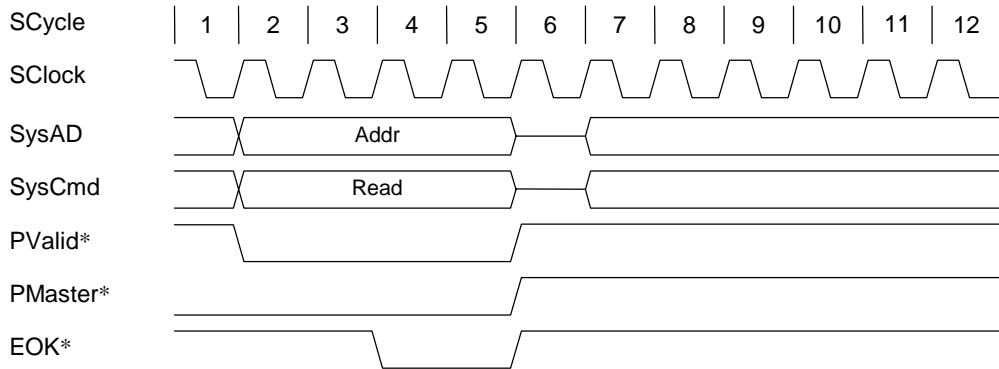

Figure 6.3.23 Delayed Processor Read Request
**EOK\*** may be used by an external agent to control the flow of processor read and write requests; while **EOK\*** is deasserted the processor will repeat the current address cycle until an external agent signals it is ready, by asserting **EOK\***. There is a one cycle delay from the assertion of **EOK\*** to the state in which the Read/Write command becomes valid. **EOK\*** must be asserted for two consecutive cycles for the command issue completion. Examples of **EOK\*** use are given in Figure 6.3.23 and 6.3.24.